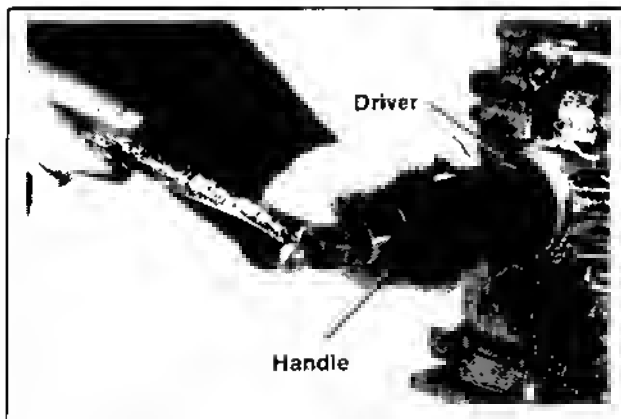

Figure 11-24. Installing Oil Seal Using Driver.
2. Using the #11795 handle and appropriate seal driver, install the front oil seal to a depth of $\frac{1}{32}$ " ($+\frac{3}{64}$ "; $-\frac{1}{64}$ "). Refer to Figure 11-24.
6. Using the #11795 handle and appropriate seal driver, install the rear oil seal to a depth of 5/32" (+ 3/64"; - 1/64"). Refer to Figure 11-24.